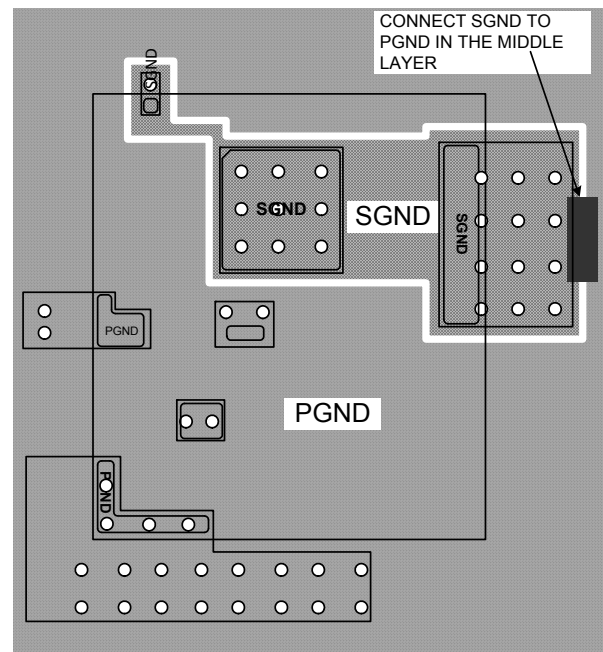

FIGURE 31. RECOMMENDED LAYOUT - CONNECT SGND TO PGND IN THE MIDDLE PCB LAYER AFTER ESTABLISHING SEPARATE SGND AND PGND
- Establish a separate SGND plane and PGND plane, then connect SGND to the PGND plane as shown in Figure 31 in the middle layer. For making connections between SGND/PGND on the top layer and other layers, use multiple vias for each pin to connect to the inner SGND/PGND layer. Do not connect SGND directly to PGND on a top layer. Connecting SGND directly to PGND without establishing a SGND plane will bypass the decoupling capacitor and internal reference supplies, making the controller susceptible to noise.